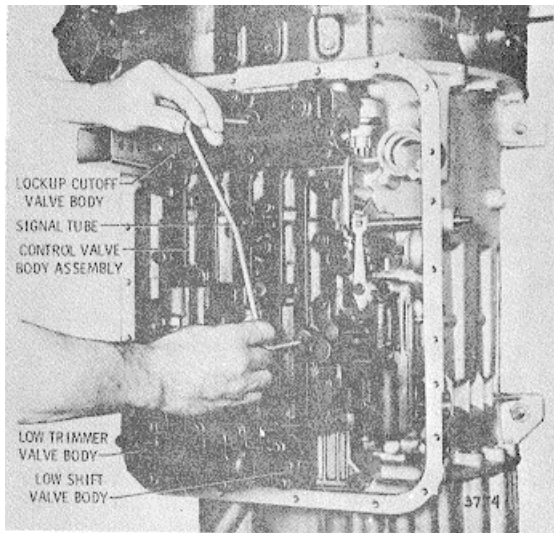

Fig. 7-57 Installing signal tube (HT750)
(9) Hold the detent in alignment over the detent lever while the 2 1/2-inch bolt is tightened to 8 to 12 pound feet (11 to 16 Nm) torque. Tighten all (38) of the bolts to 8 to 12 pound feet (11 to 16 Nm) torque.
(10) Install the signal tube (fig. 7-57).